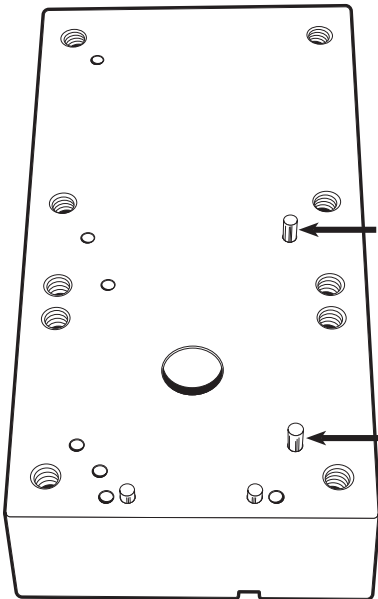

FIGURE 4—Long, side locating-pins (P/N 11416).
- Choose the two, side locating-pin holes that match your laser the best. For the OPT Laser, we will be using the two locating-pin holes on the right side. Insert the two longer pin in the side holes (see Figure 4).